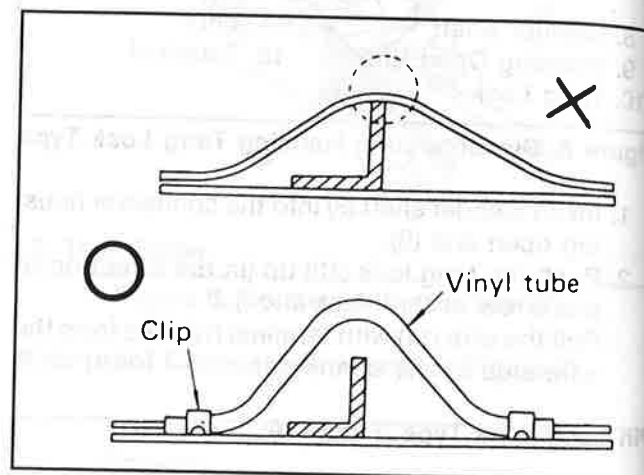

Figure 15. Wiring Harness (3)
4. Position the wiring harness with enough clearance from the other parts and guard the wiring harness with a vinyl tube to avoid direct contact (figure 15).